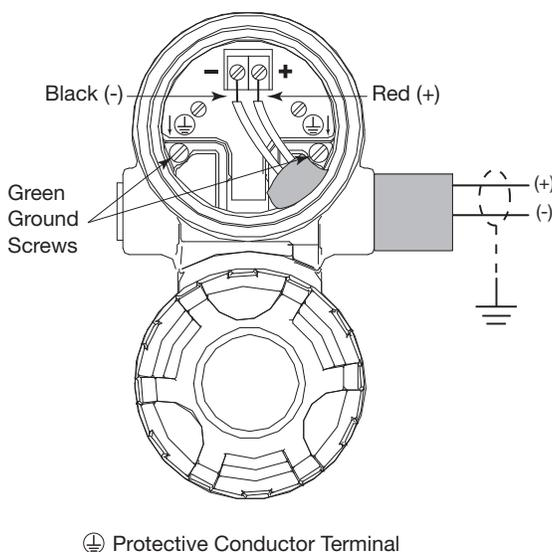

Figure 1
- Connect an earth ground to the nearest green ground screw. See Figure 1. Use a minimum 18 AWG rated up to 85 °C.